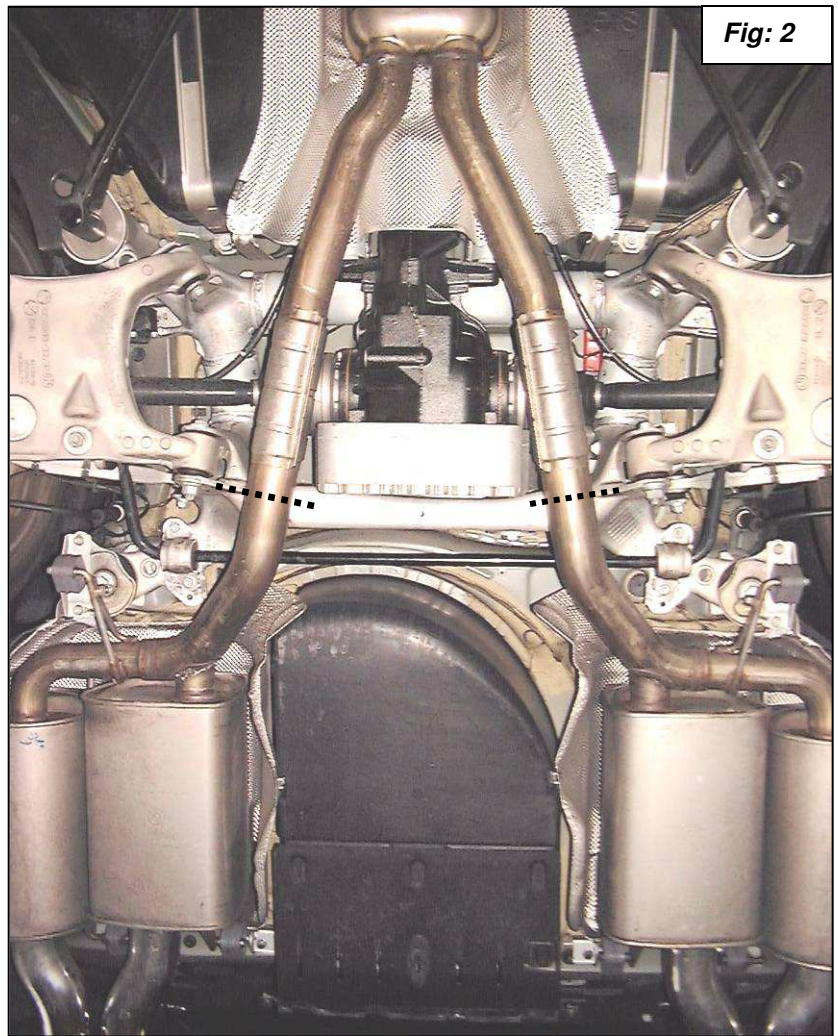

Fig: 2
2. Check to see if your marks are about 1.75" from the insulation on the pipe close to the differential. See figures 2, 3 & 4.